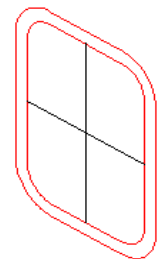

Figure Step 8
Step 8 On layer Construction, draw in two construction lines from midpoint of the lines to find the exact center of the object. See Figure Step 8